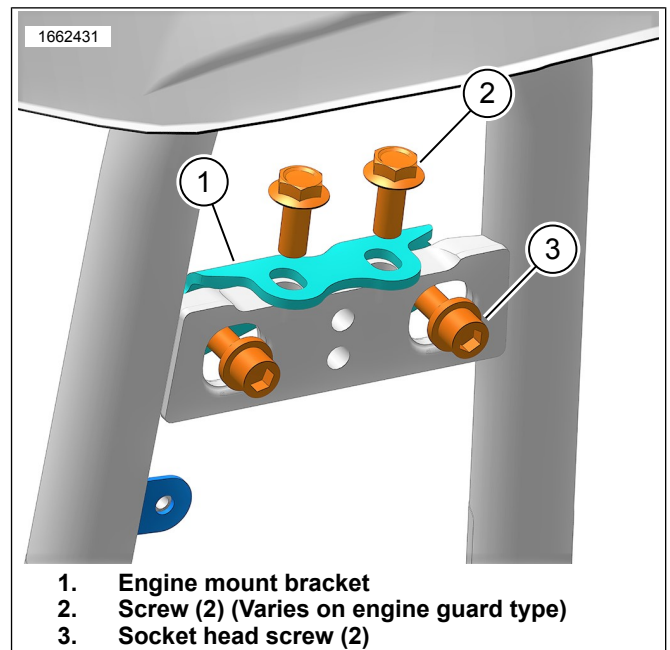
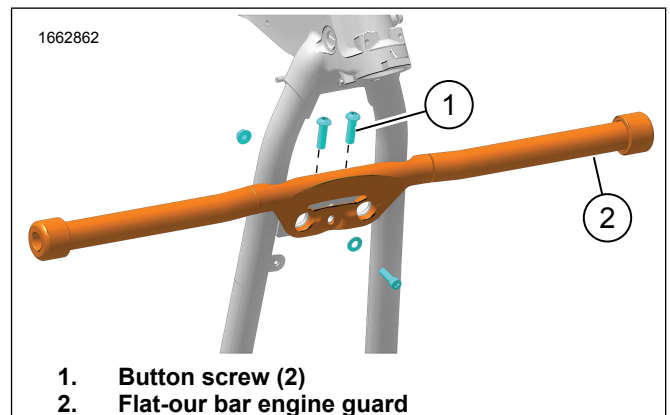

Figure 5. Engine Mount Bracket
Figure 6. Flat-Out Bar
- a. See Figure 5. Install engine mount bracket (1).
1. See Figure 5. Install engine mount bracket (1).
2. Install and hand tighten screws (3).
- a. See Figure 6. Use screws (1) from kit to secure engine mount bracket and engine guard.
4. See Figure 5. Tighten screws (3).